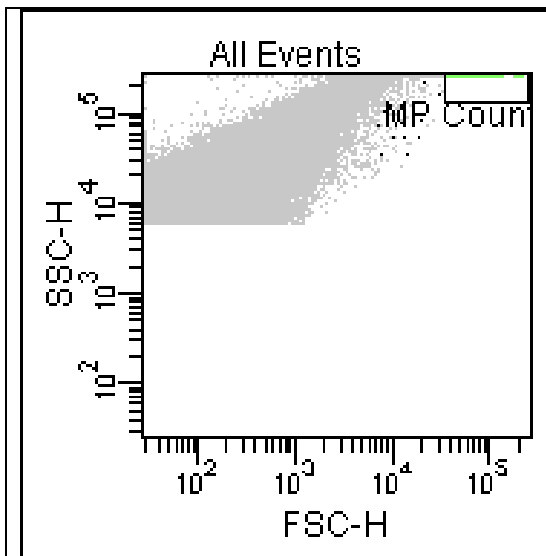

Fig 8a: MP Count beads in stained PFP
Illustrations on FACS CantoII (BD) (Fig 8a/b/c/d)